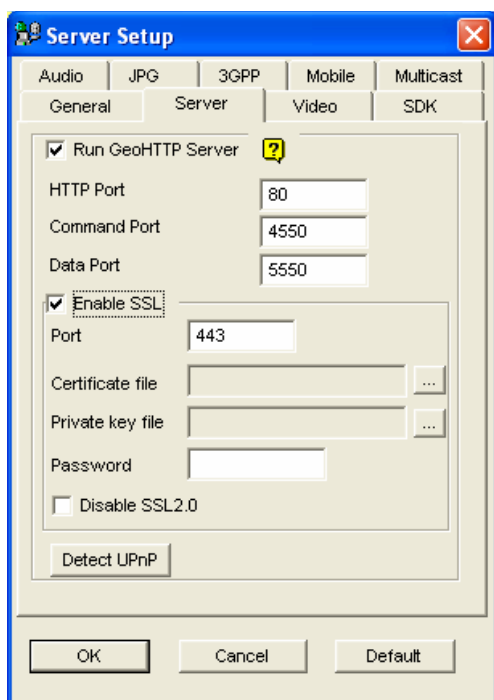

Figure 8-6
1. On the main screen, click the **Network** button (No. 11, Figure 1-2), select **WebCam Server**, and click the **Server** tab. The Server Setup dialog box (Figure 8-6) appears.